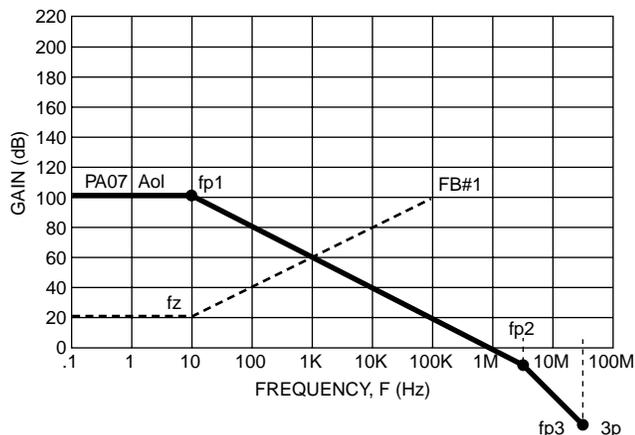
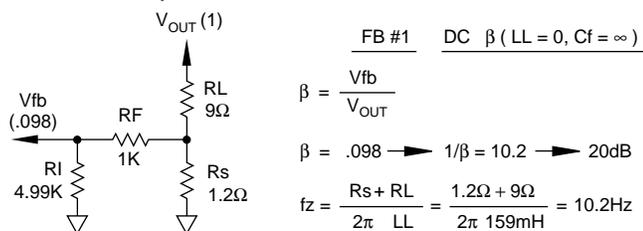

FIGURE 17. Aol AND FB # 1 – MAGNITUDE PLOT FOR STABILITY
FIGURE 18. FEEDBACK NO.1 (FB #1)
STEP 1: On Figure 17 plot the op amp's Aol curve as given by the manufacturer.
STEP 2: On Figure 17 plot FB#1. Refer to Figure 18 for calculation of FB#1. At DC, LL is a short and so β is a voltage divider through resistors as shown in Figure 18. As we go to higher frequencies, the reactance of LL will increase ($X_L = 2\pi fL$). This will increase the net load impedance which will cause β to decrease and $1/\beta$ to increase as frequency increases. Since we are working with a single reactive element the increase of that gain will be 20 dB per decade. Figure 18 details the breakpoint f_z where this increase begins. We see that at the intersection of FB#1 and the PA07 Aol curves the rate of closure is 40 dB per decade indicating marginal stability.